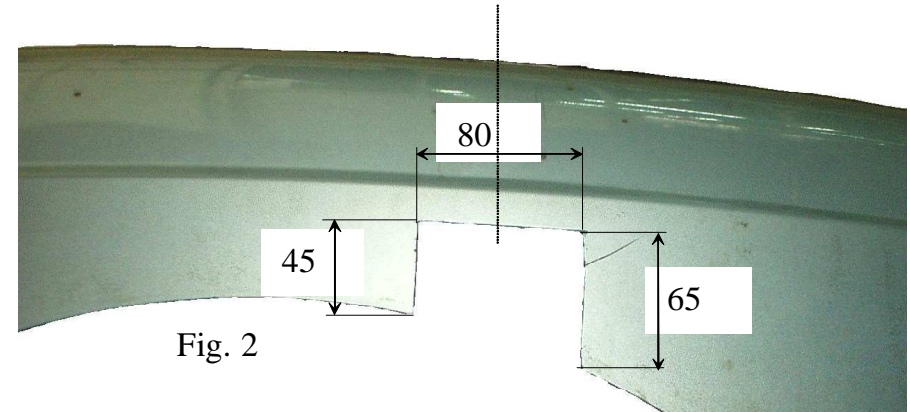

Fig. 2
3. To uncovered holes put special nuts „Caget nut” (pos.7).
4. Put mian bar of the towbar in this way, so towbar’s holes agree with caget nut, fix by M10x35mm bolts (pos. 9) as shown on the drawing (loosely).
5. Fix side brackets pos. 4, 5 and flat bar pos. 6 .
6. Cut the bumper according to the fig. 2 and then reassemble it.